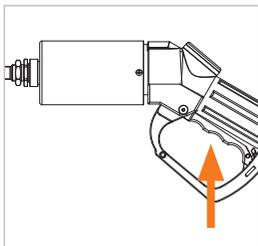

Figure 20
- ▶ Pull the actuation lever (Pos. 6) on the hand grip (Pos. 7) of the fueling nozzle fully up to its ON position (Figure 20) until it engages with an audible click.